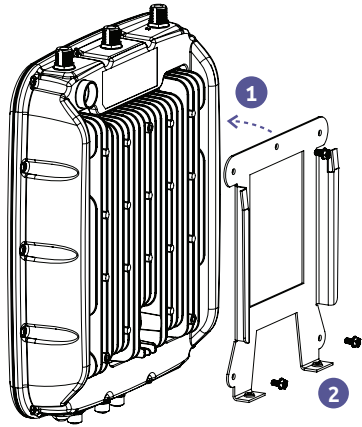

Fig 1. Installing the wall mounting bracket
- 1.** Attach the unit side of the wall mounting bracket to the back of the unit with three M5 x .8mm x 10mm long stainless steel screws. **(Fig. 1)** Note that a single bolt attaches in the middle at the top of the bracket and two bolts attach the bottom of the bracket. Holes on the top left and right corner are unused.